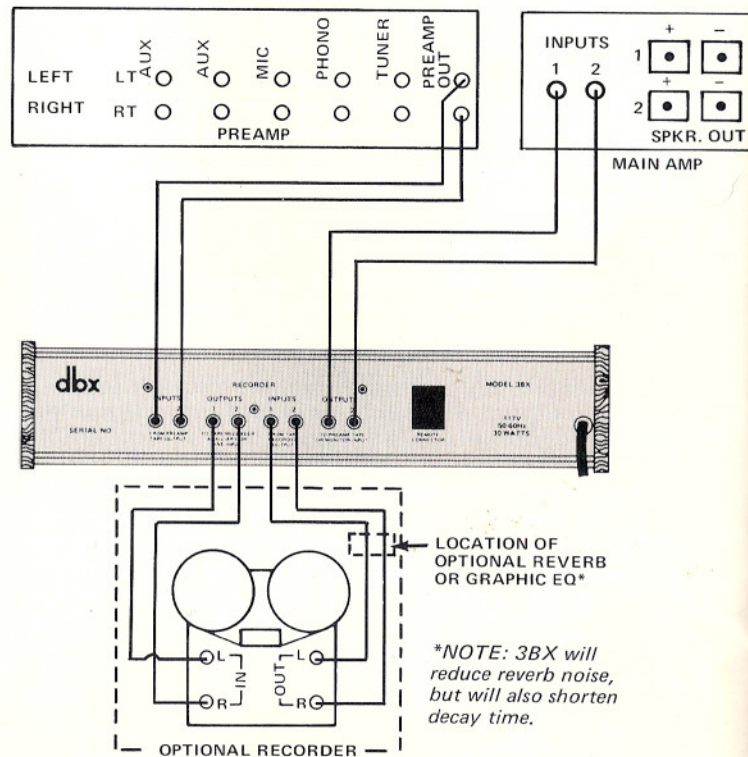

Fig. 10 – How to Connect the 3BX if You are using a Separate Preamplifier and Power Amplifier with no Tape Monitor Loop
2. If you connect the 3BX to the PREAMP-OUT/MAIN-AMP-IN jacks (Fig. 9) or between a preamplifier and power amplifier (Fig. 10), and also connect a tape recorder as shown, always set all tone controls to their "flat" positions when recording.